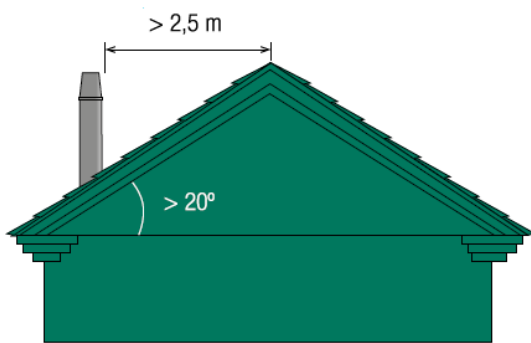

Figure 10.5
- When there are obstacles outside the building where the chimney is installed, the discharge outlet must be raised as indicated in figure 10.5.